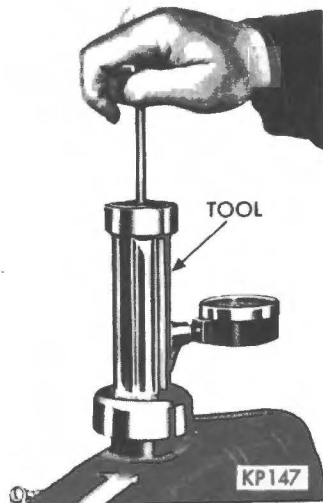

Fig. 1 - Pressure testing the cooling system
- (2) Wipe filler neck sealing surface clean.
- (3) Attach Tool C-3499 to filler neck and apply 15 p.s.i. pressure (See Fig. 1).
(4) If pressure gauge reading holds steady, the system is satisfactory. If pressure drops, continue test as follows:
- (5) Check all points for external leaks. If no external leaks are found after the gauge dial showed a drop in pressure, continue test.
- (6) Remove tester and run engine until normal operating temperature is reached.
- (7) Re-attach Tool C-3499, apply 7 p.s.i. pressure and increase engine speed to half throttle.
- (8) If needle on dial fluctuates, it indicates a combustion leak, generally at the head gasket.
- (9) If needle on dial did not fluctuate in step (7), sharply accelerate the engine several times. If an abnormal amount of water emits from the tail pipe, it indicates a head gasket leak, cracked block or cracked head.